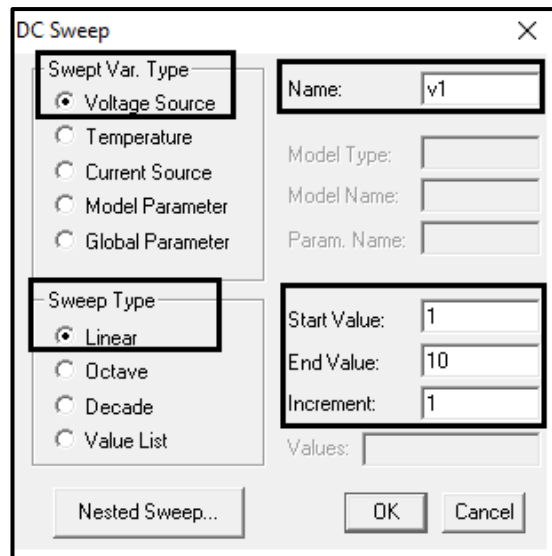

Figure.16
- Click on “DC sweep” and the window shown in figure 16 will show up, you have to fill the spaces indicated inside boxes in figure.16.